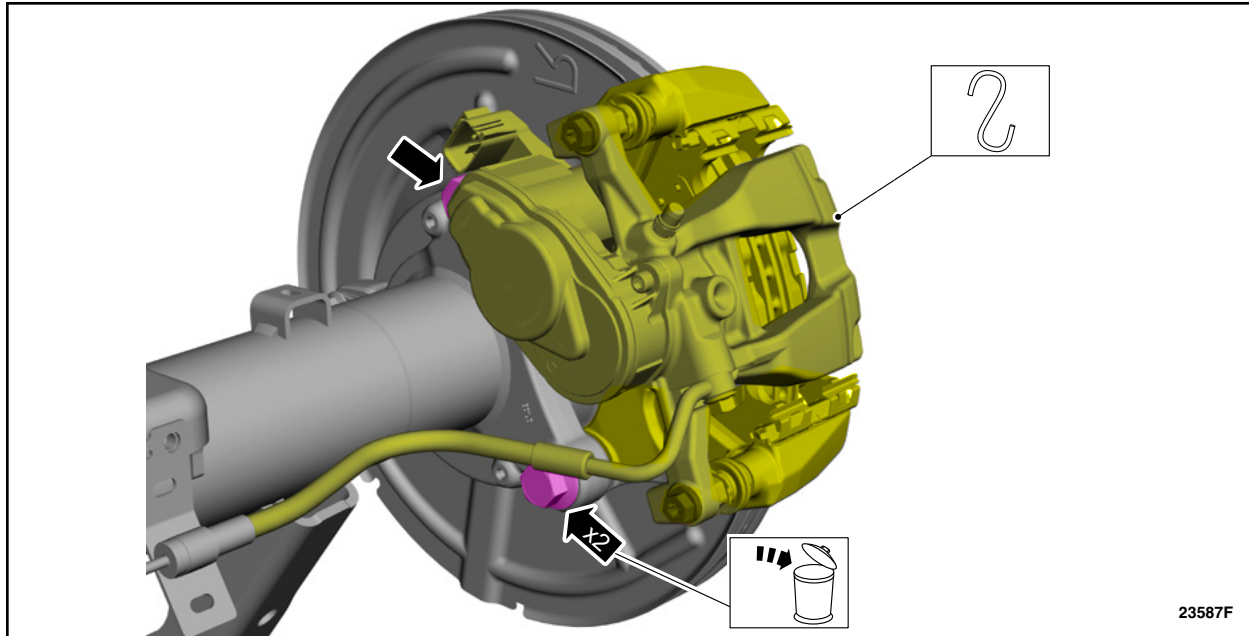

FIGURE 2
7. On both sides, remove and discard the two (2) anchor plate bolts and position aside the brake caliper and anchor plate assembly. See Figure 2.
11. On both sides, position back the brake caliper and anchor plate assembly and install the new bolts. See Figure 2.